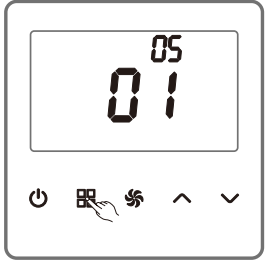

Figure 11
As shown in the Figure 11 on the parameter setting page, pressing  (MODE) activates a switch to the option number 05.  (UP) or  (DOWN) is provided to allow a switch between "00", "01" and "03", adjusting the fan operation.